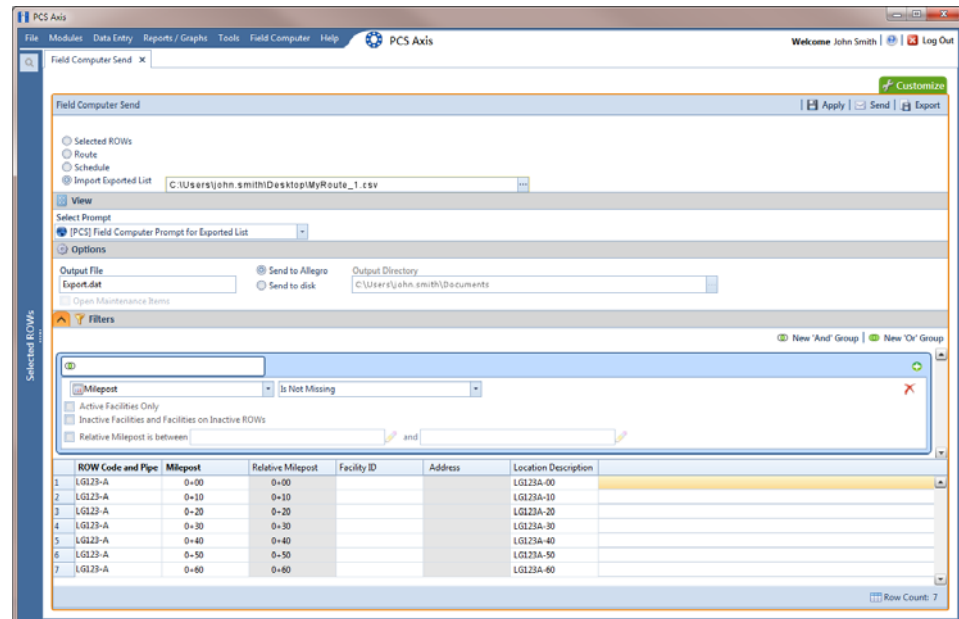

Figure 13-15. New 'And' Filter
- 4 Click the option **Import Exported List** (Figure 13-15, page 577).
- 10 If you want to work with a subset of facility records that meet *all* filter conditions, create an AND filter group using the following steps (Figure 13-15, page 577):